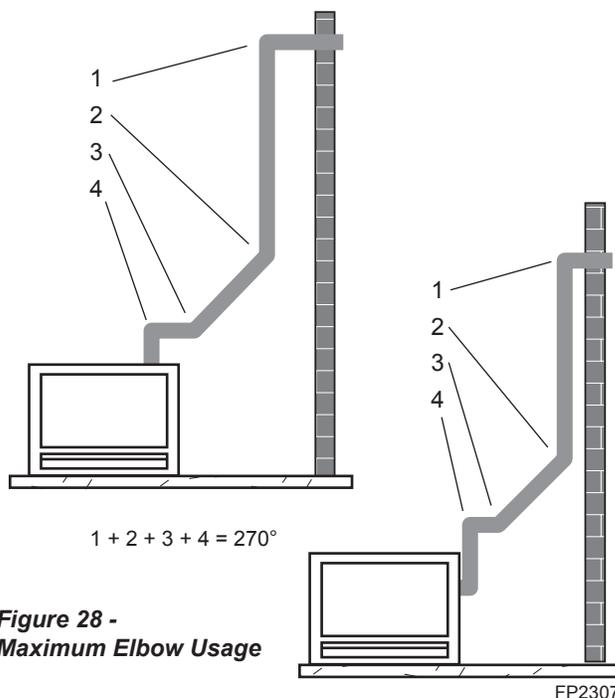

Figure 28 - Maximum Elbow Usage
- The maximum number of elbow degrees in a system is 270°. *Figure 28*